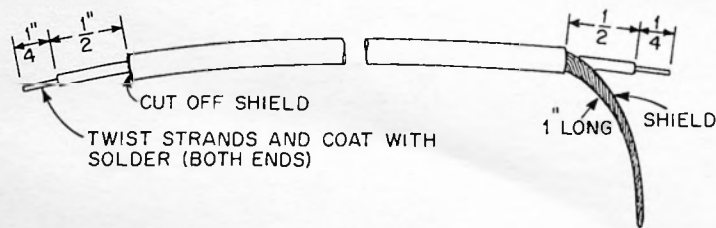

FIGURE 26. CABLE PREPARATION
- Prepare three 10" lengths of shielded cable as shown in Figure 26.
- Prepare two 10" lengths of the shielded cable as shown in Figure 26.